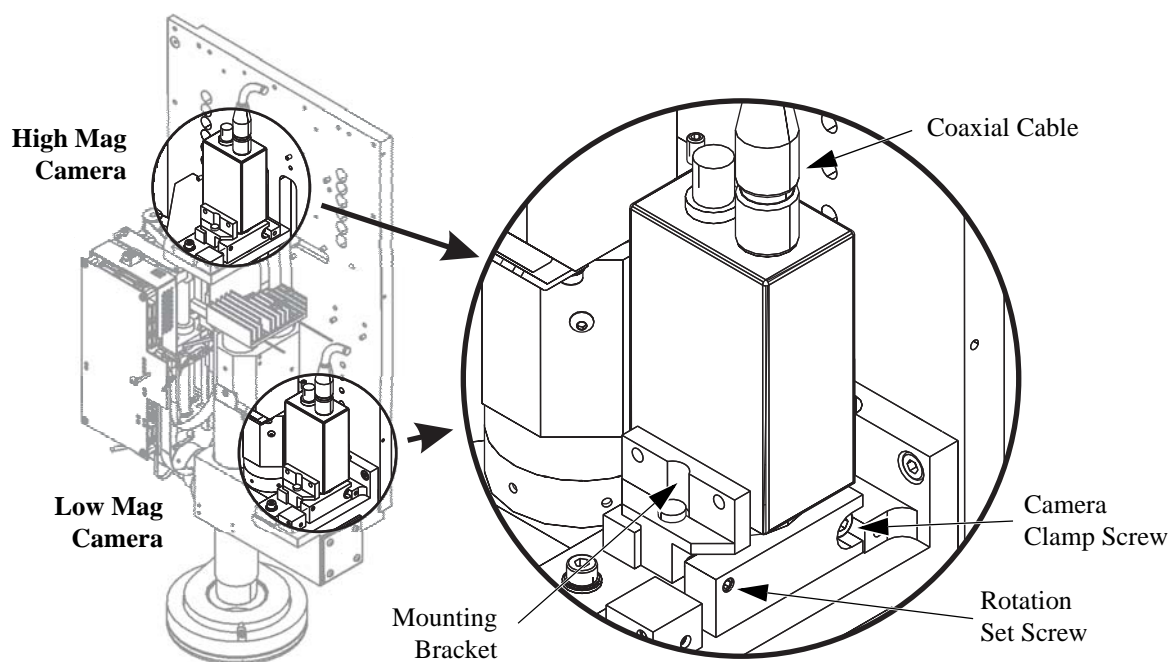

Figure 9-6 Replacing the Camera(s)
3. Disconnect the coaxial cable from the top of the camera to be replaced by pulling up on the connector (see Figure 9-6).